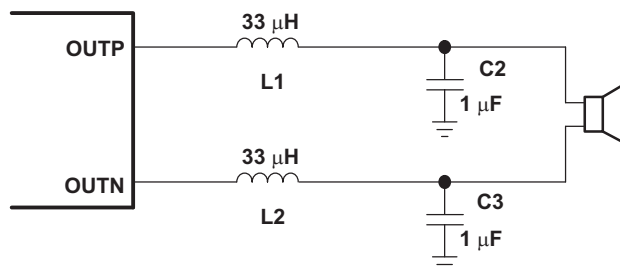
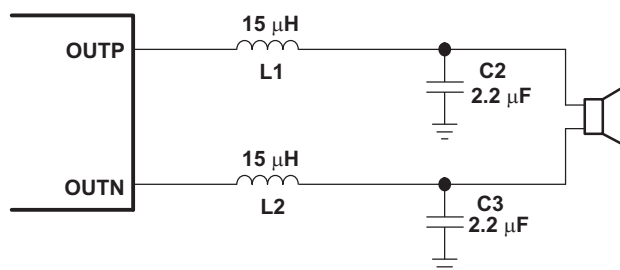

Figure 37. Typical LC Output Filter, Cutoff Frequency of 27 kHz, Speaker Impedance = 8 Ω
Figure 38. Typical LC Output Filter, Cutoff Frequency of 27 kHz, Speaker Impedance = 4 Ω
- **Output filter**—The ferrite EMI filter (Figure 39) should be placed as close to the output terminals as possible for the best EMI performance. The LC filter (Figure 37 and Figure 38) should be placed close to the outputs. The capacitors used in both the ferrite and LC filters should be grounded to power ground.